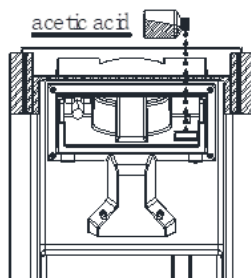

Fig. 2
4. Add appropriate amounts of acetic acid solution to the indicated position shown (Fig. 2)